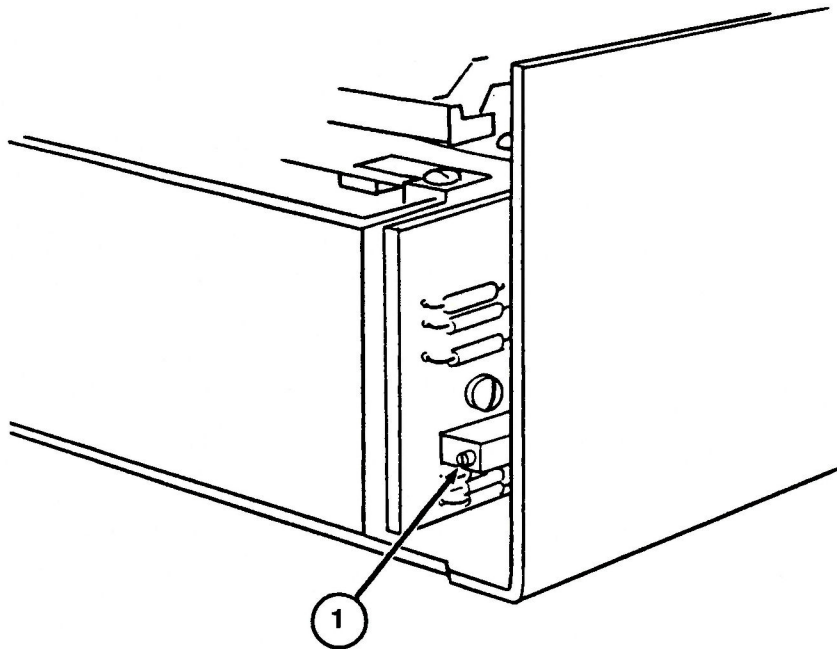

FIGURE 1
3. Look at the back of the drive mechanism. Locate the motor control board mounted on the edge, and locate the potentiometer that has a screwdriver adjustment on the side (Figure 1, #1). (Do not confuse this potentiometer with the potentiometers on the analog card.)